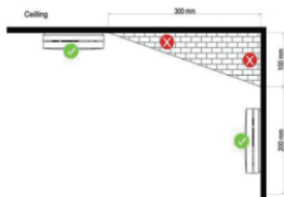

Figure 1
3. If the alarm cannot be installed in the center of the ceiling, place it at a distance of 300 mm from the corners (see figure 1).